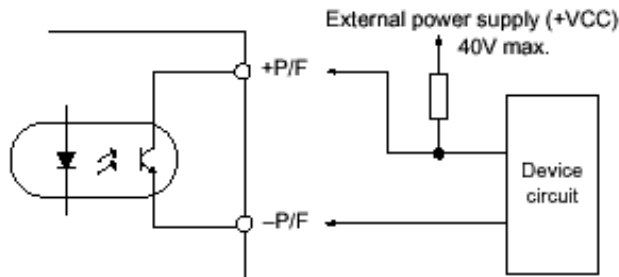
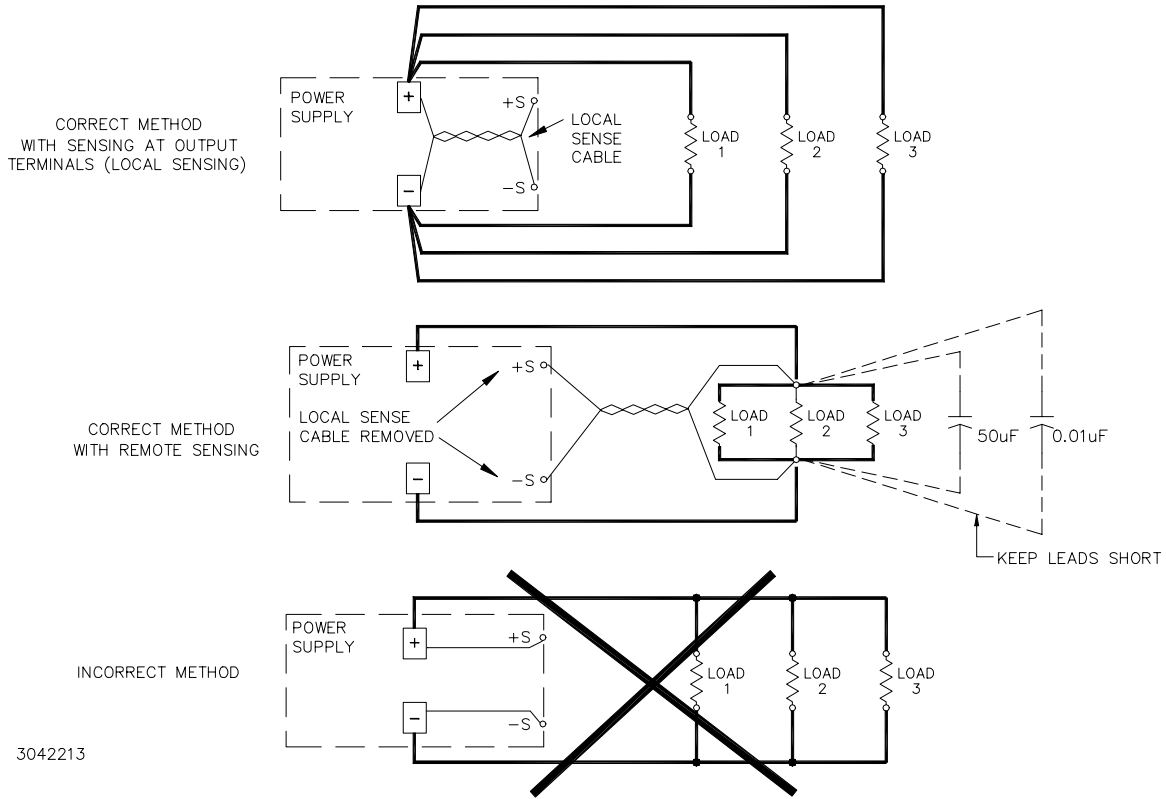

FIGURE 6. OUTPUT ALARM CIRCUIT OPTICALLY ISOLATED
FIGURE 8. CORRECT AND INCORRECT METHODS OF LOAD CONNECTION
3. DC output terminals (+, -) - Connect to load (see Figure 8).
4. Remote sensing terminals (+S, -S) These terminals are used to compensate voltage loss in the connecting lines from the output terminal to a load; they are connected to DC output terminals for local sensing (see Figure 8).
6. Remote voltage adjustment terminal (RV) - This terminal (together with the REF terminal) is used for remotely controlling output voltage (see PAR. 3.2).
7. Current balance terminal (CB) - This terminal is used when several power supplies are connected in parallel (see PAR. 6.3).
8. Power failure terminal (+PF, -PF) - These terminals output an open logic signal if output voltage drops to 80 % or lower of a set voltage, or if output voltage is shut down due to overvoltage or overcurrent protection, fan speed failure, or overheating. (see Figures 6 and 7).
To connect the load for local sensing, connect the +S to (+) terminals and -S to (-) terminals. The load is connected across DC output (+) and (-) terminals (see Figure 8). For the RKW 3.3-70K and RKW 5-60K use the two high and the two low output terminals.
For remote sensing the load is connected as shown in Figure 8. Remote error sensing at the load terminals compensates for voltage loss in the connecting wires as indicated in Table 2. For remote sensing, the sensing cables must be removed from the +S to (+) and -S to (-) terminals. NOTE: If oscillations set off the overvoltage protection, install one external electrolytic capacitor, rated 470 μ F min. between the (+) and +S terminals and one between the (-) and -S terminals.